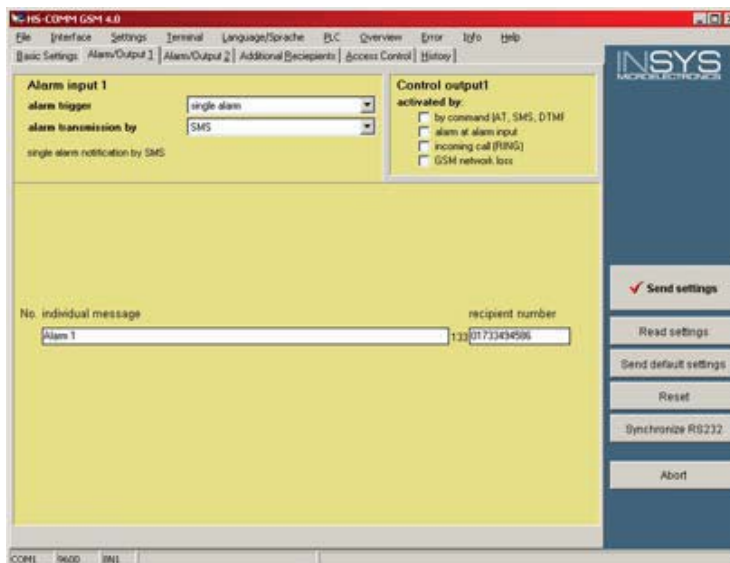

Fig. 221: GSM modem - alarm/output 1
2. ➤ Set up the modem as shown in (Fig. 221) on the “Alarm/Output 1” tab.